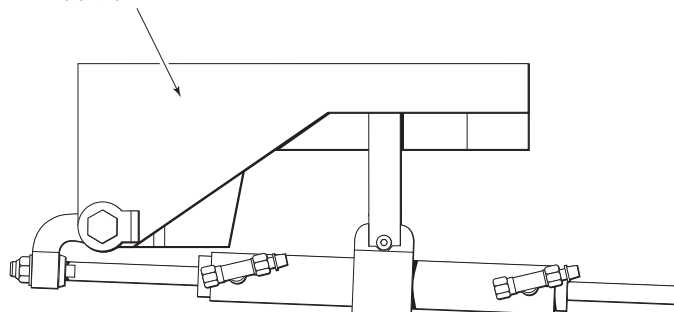

Figure 5-2.
9. HC5332 is recommended if the Volvo transom shield looks like that shown in figure 5-2 below.